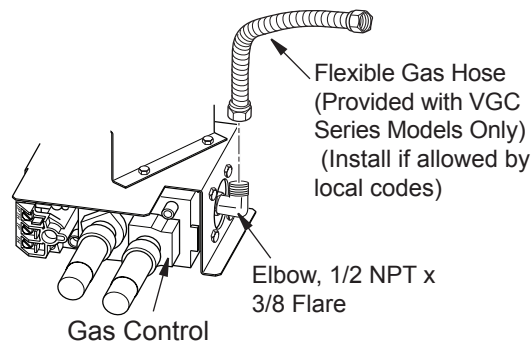

Figure 9 - Attaching Flexible Gas Hose to Appliance Gas Regulator
1. Apply pipe joint sealant lightly to male threads of the 1/2 NPT side of gas fitting elbow (provided) and connect to inlet side of gas control. Remove gas fitting from flexible gas hose (provided) before connecting to elbow (see Figure 9).
4. Disconnect gas line from appliance base as shown in Figure 9, page 7.